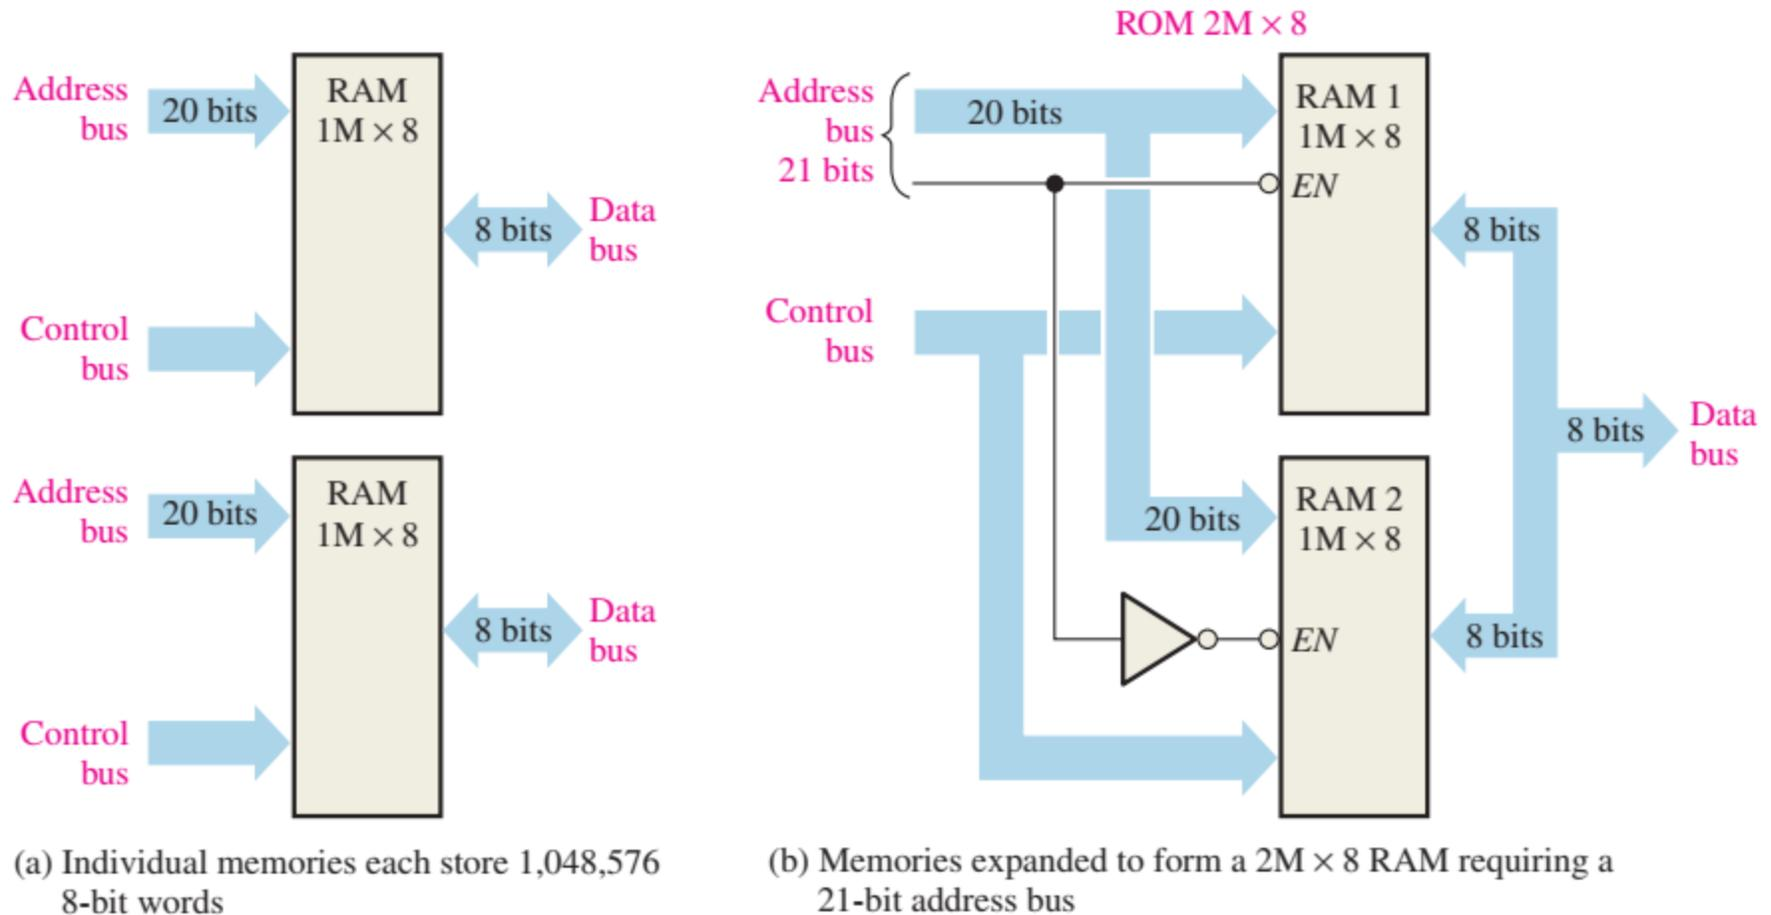

Fig. 2-26.
- ❑ Figure 2-26 shows two 1M x 8 RAMs are expanded to form a 2M x 8 RAMs.